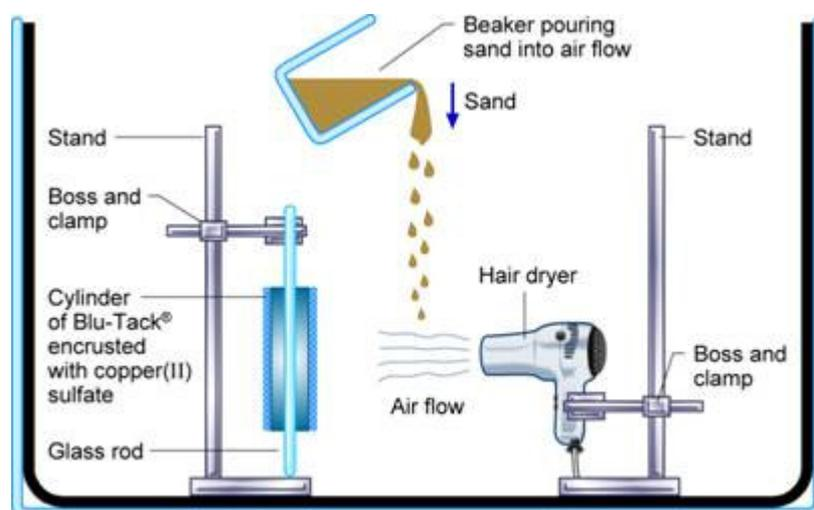

Figure 3 The setup for activity 5
Set up the apparatus in a fume cupboard with the air extraction switched off. Line the floor of the fume cupboard with the bin liner. Make a cylinder of Blu-Tack® and coat it with a thin layer of copper(II) sulfate crystals by rolling the Blu-Tack® in a tray of the crystals. Place the cylinder on the bin liner. Set up the hair drier (using the stand, clamp and boss) so that it is at the same height as the coated cylinder of Blu-Tack® and pointing towards it – Figure 3.